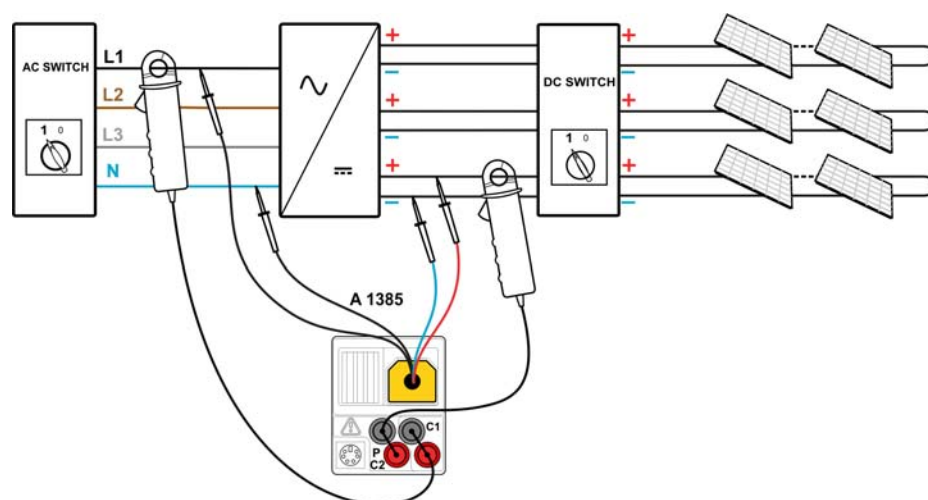

Figure 6.7: PV inverter test - AC and DC sides
- ❑ **Connect** PV test lead A 1385 and current clamps to the instrument (see figure 6.7)